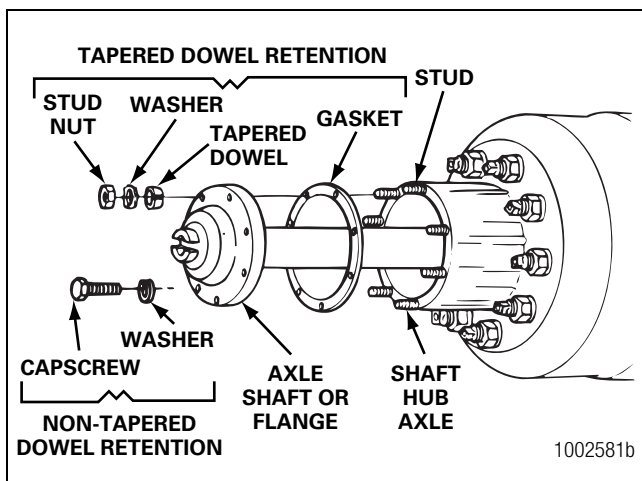

Figure 11.9
8. Remove the stud nuts or capscrews and the washers from the flange of the axle shaft. Figure 11.9.
9. Loosen the tapered dowels, if used, in the flange of the axle shaft. Refer to Section 3 for the recommended tools and removal procedures. Figure 11.9.
10. Remove the tapered dowels, the axle shafts and gaskets, if used. Figure 11.9.
6. Install the gasket, if used, and axle shaft into the axle housing and carrier in the same location. The gasket and flange of the axle shaft must be flat against the hub. Rotate the axle shaft or the driveline as necessary to align the splines and the holes in the flange with the studs in the hub. Figure 11.9.